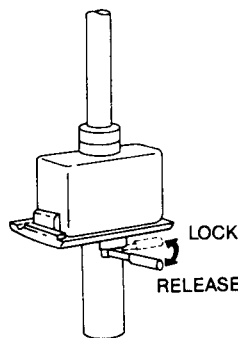

FIG. 12
3. Insert FITTING into WAND SOCKET. Turn LEVER 90° to make mechanical and electrical connection. See Fig. 12.